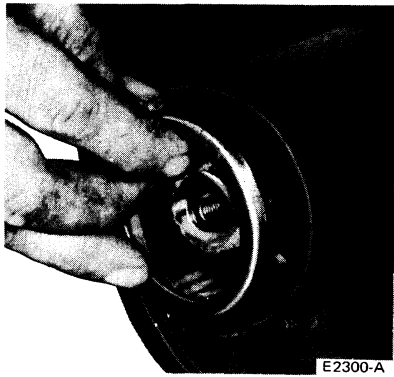

FIG. 7 Spring Retainer Ring Installation
2. Install the spring retainer ring, positioned as shown with recessed undercut area going in first. Be sure it seats against the bearing (Fig. 7).